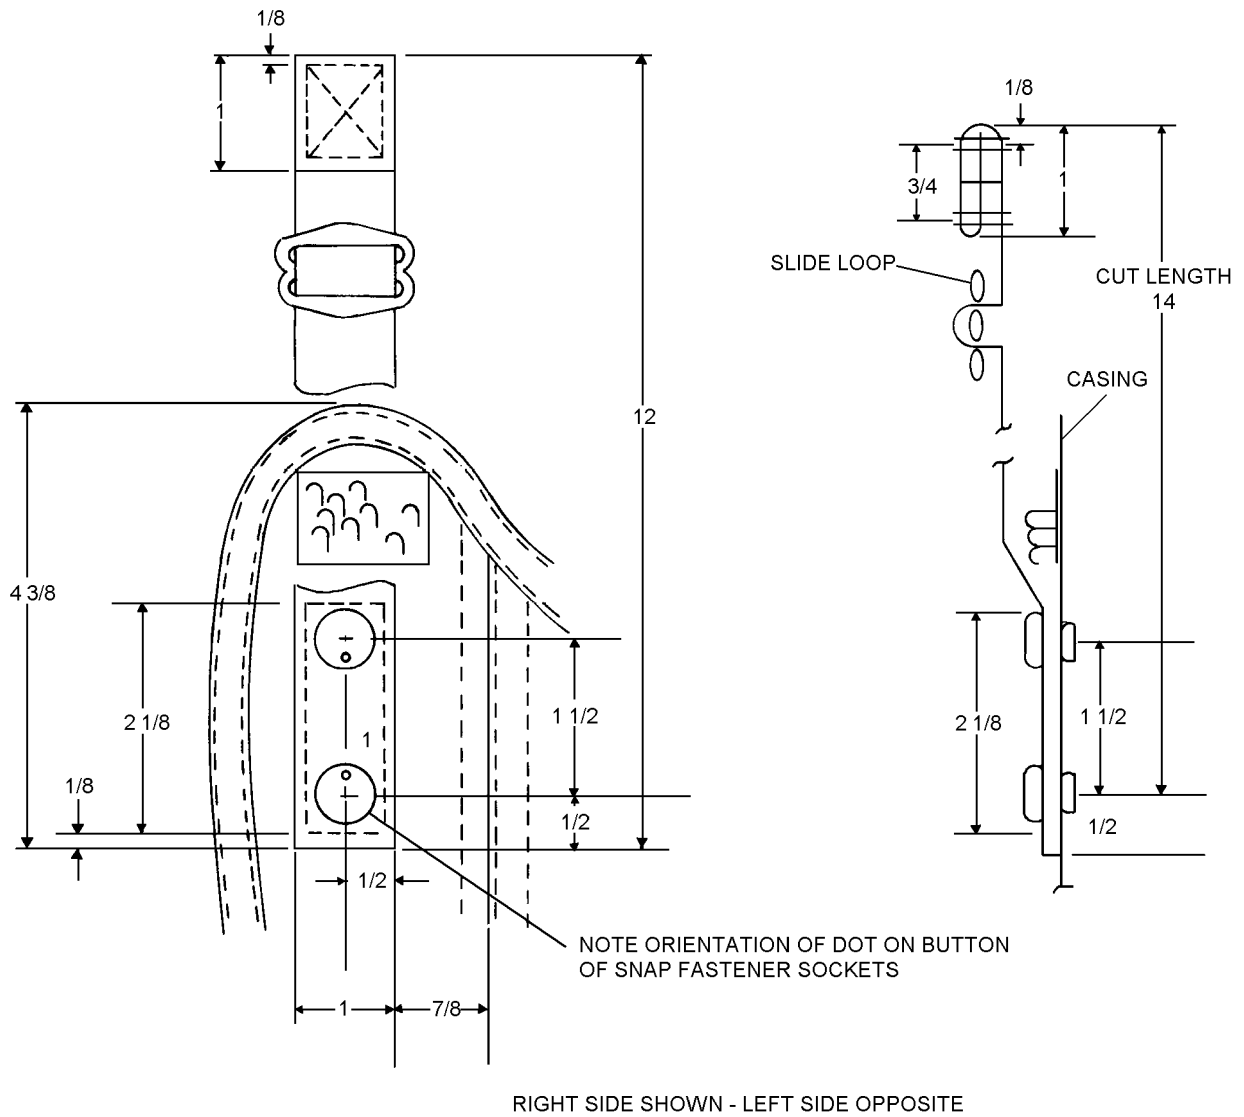

Figure 15-14. Collar Casing Shoulder Strap Fabrication and Installation
2. Form a three-layer end-tab in accordance with figure 15-14. Remove free end through slide loop.
4. Install two uni-directional snap fastener sockets with dots on buttons on the inside (facing) as shown in figure 15-14.